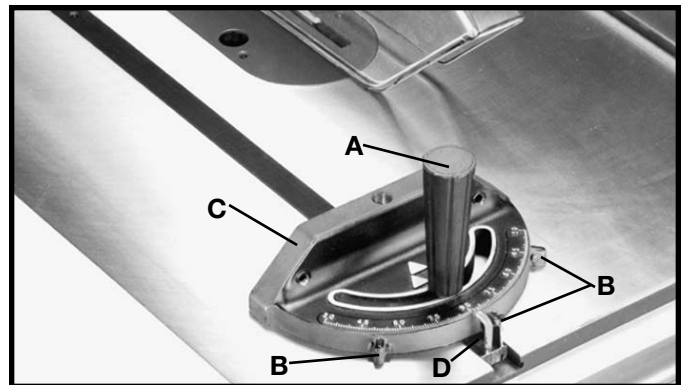

Fig. 115
The miter gage is equipped with adjustable index stops at 90 degrees and 45 degrees right and left. Adjustment to the index stops can be made by tightening or loosening the three adjusting screws (B) Fig. 115, with allen wrench supplied.
To rotate the miter gage, loosen lock knob (A) Fig. 115, and move the body of the miter gage (C), to the desired angle.
The miter gage body will stop at 90 degrees and 45 degrees both right and left. To rotate the miter gage body past these points, the stop link (D) Fig. 115, must be moved up and out of the way.